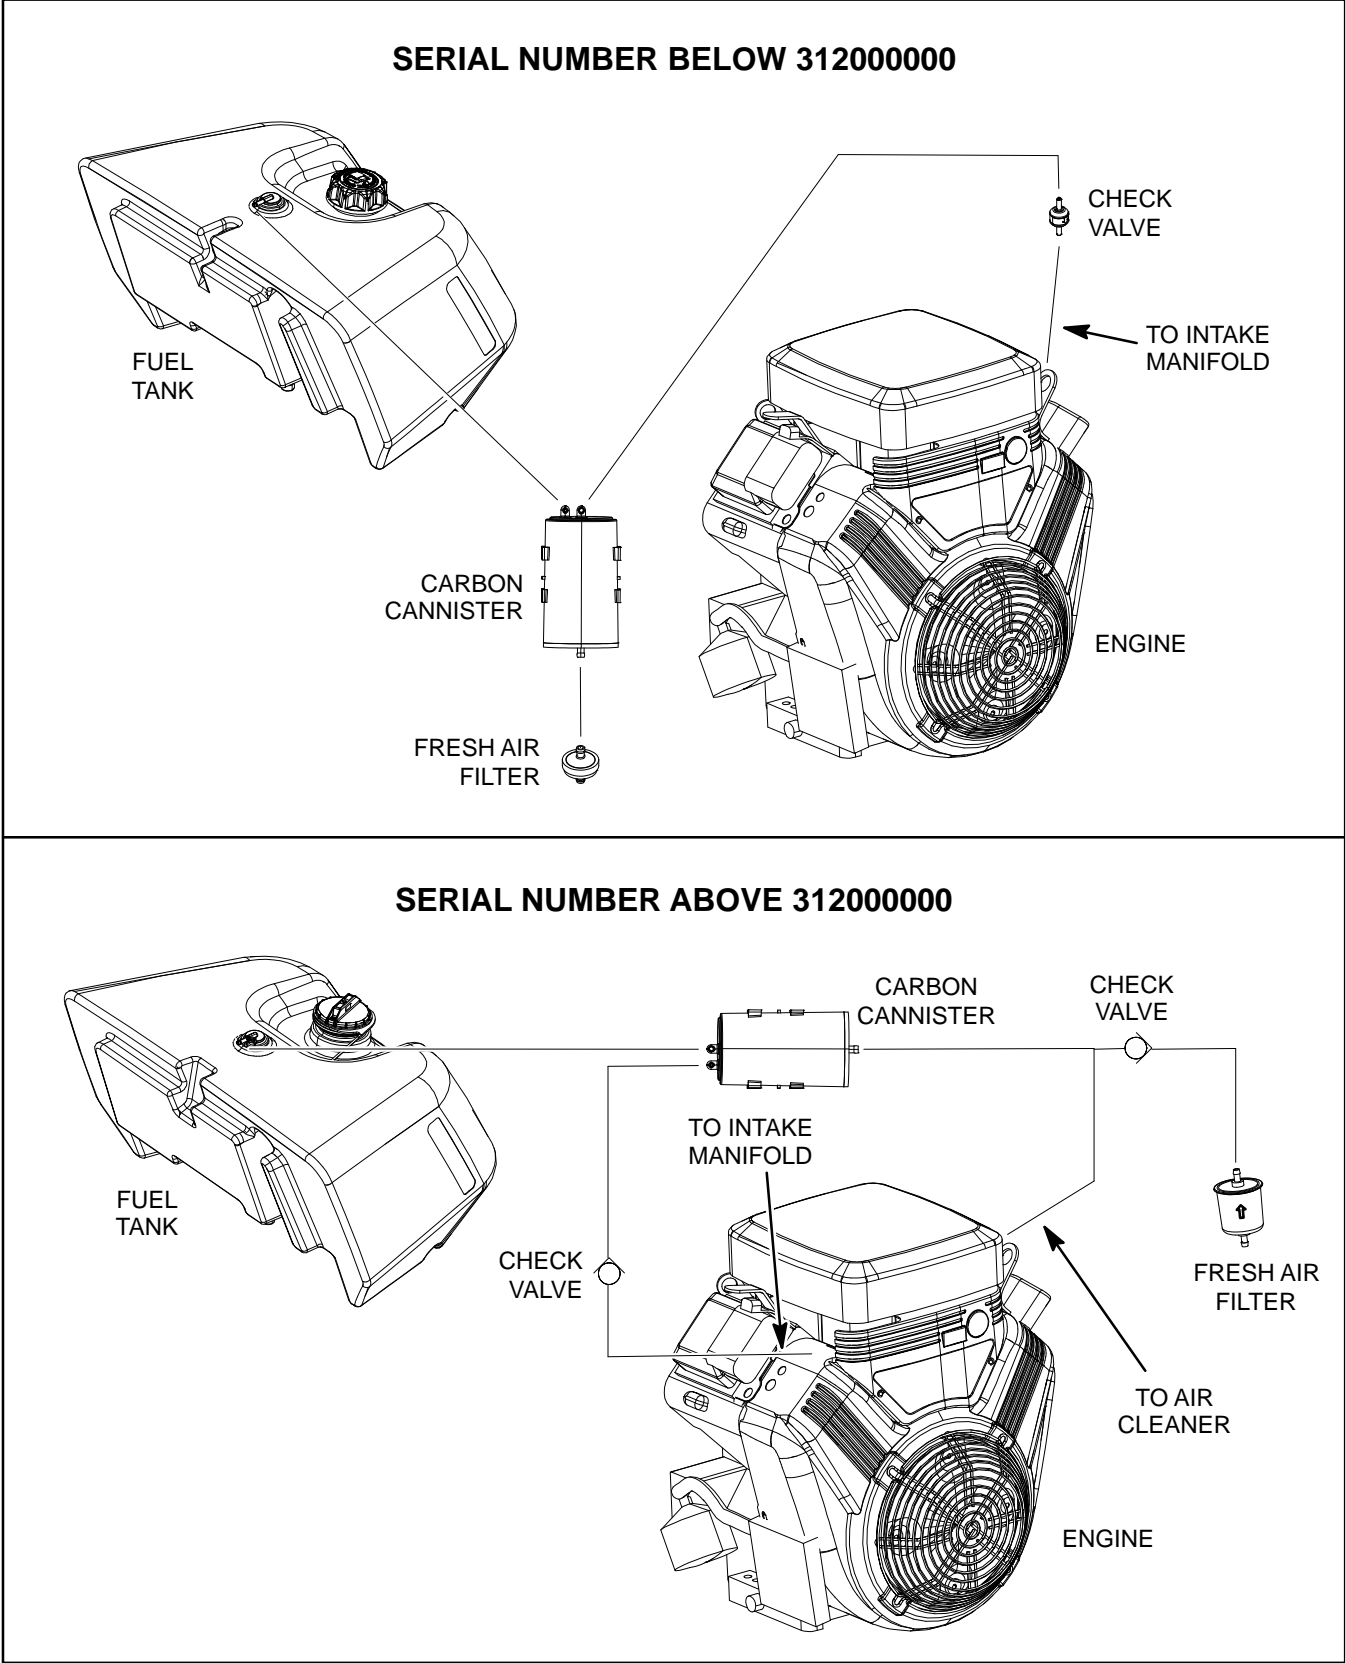

Figure 1
Components used in the evaporative control system on Greensmaster 3320 machines changed at serial number 312000000. Figure 1 illustrates the components used in the evaporative control system.
On machines with serial number above 312000000, the carbon canister is mounted between the hydraulic reservoir and leak detector tank. The evaporative system includes two (2) connections to the engine: one to the intake manifold and the second to the air cleaner base. Venting hose assemblies include a check valve in two (2) locations as shown in Figure 1.